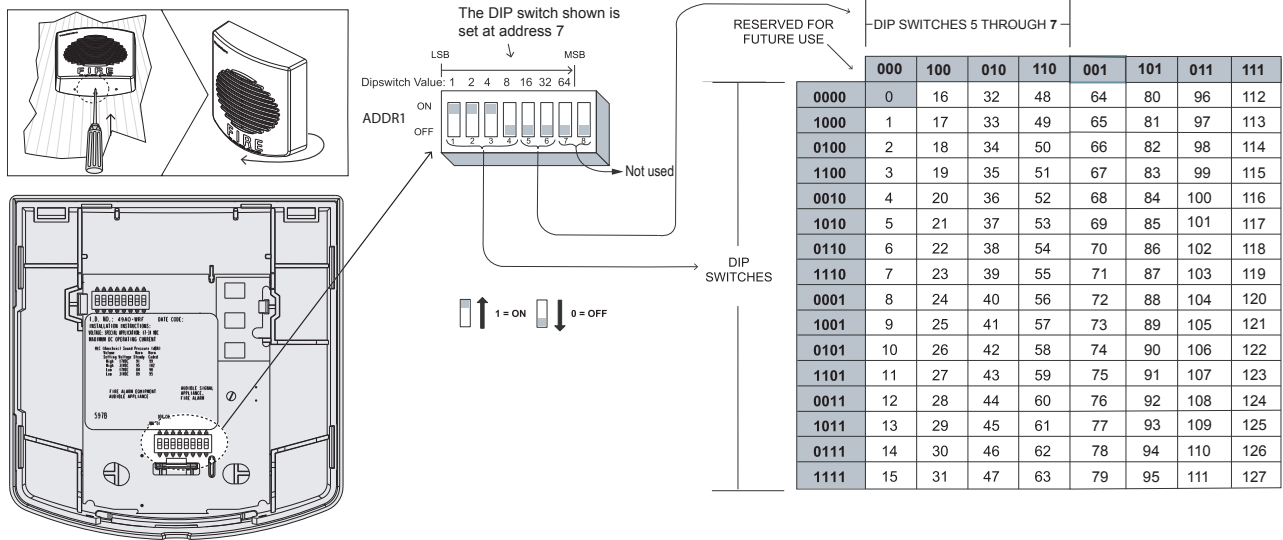

Fig 3: Setting the DIP Switch Address
1. Insert a number 1 or number 2 Phillips screwdriver, or a similar sized object, into the opening at the bottom of the appliance and unclip the appliance from the backplate. See Figure 3.